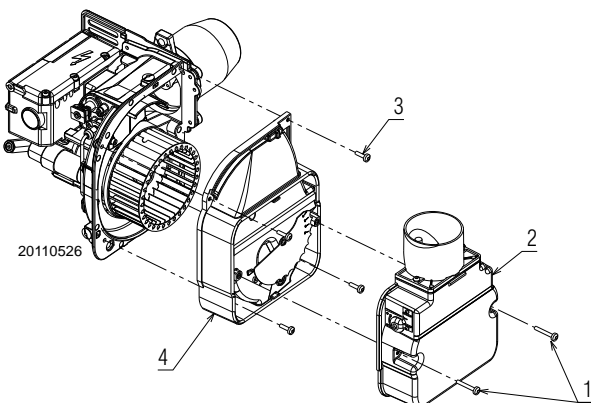

Fig. 22
- unscrew the screws 1)(Fig. 22) and take out the air damper 2);
Inside the suction casing 2)(Fig. 22) there is a damper that opens due to the effect of the depression generated when operating. The device interrupts the natural flow of air from the burner to the boiler and vice-versa during stop phases.